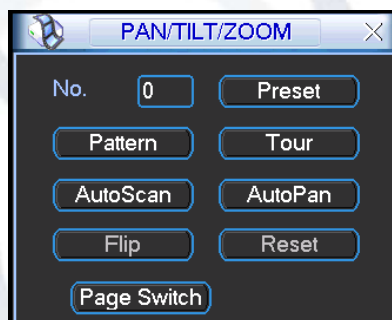

Figure 4-48
In Figure 4-44, click page switch button, the interface is shown as in Figure 4-48.
- The following setups are usually operated in the Figure 4-44, Figure 4-47 and Figure 4-48.
In Figure 4-48, please input preset number in the 'No.' field blank, and click preset button.
In Figure 4-48, click page switch button, you will see the interface as shown below. See Figure 4-46.